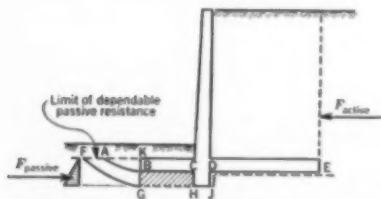

FIG. 1. Failure of soil in front of a wall will occur along arcs such as AB if there is no key, or FG if there is a key.
2. The limit of dependable resisting soil has been shown in Fig. 1 as level with the top of the base slab rather than the full height of the toe fill in order to account for possibilities of erosion or removal of toe fill and of seasonal changes that would make passive resistance unreliable. Some designers prefer to neglect entirely the passive pressure in front of the base slab and depend on the key only for such resistance, but this is a minor matter for individual preference. If the toe fill has a paved surface, as for example for walls bounding a depressed urban highway, there is little danger of erosion and the full height of the toe fill is often taken as effective in providing passive resistance.